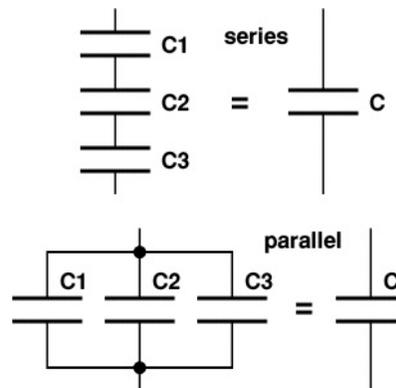

Figure 2: Capacitors in Series and in Parallel
2. Now choose three out of the five capacitors and connect them into the SERIES circuit in Figure 2. You should choose capacitors that have similar order of magnitude, record the capacitance of the chosen capacitors below Table 2. Measure the capacitances of the combinations as indicated on the diagram by connecting the leads of the Multimeter between the points at the ends of the arrows and record your result in Table 2. Use the measured values in Table 1 to calculate the theoretical values and find the percentage difference.
3. Construct a PARALLEL circuit as in Figure 2, first using combinations of two of the capacitors, and then using all three. Measure and record your values for these circuits in Table 3.